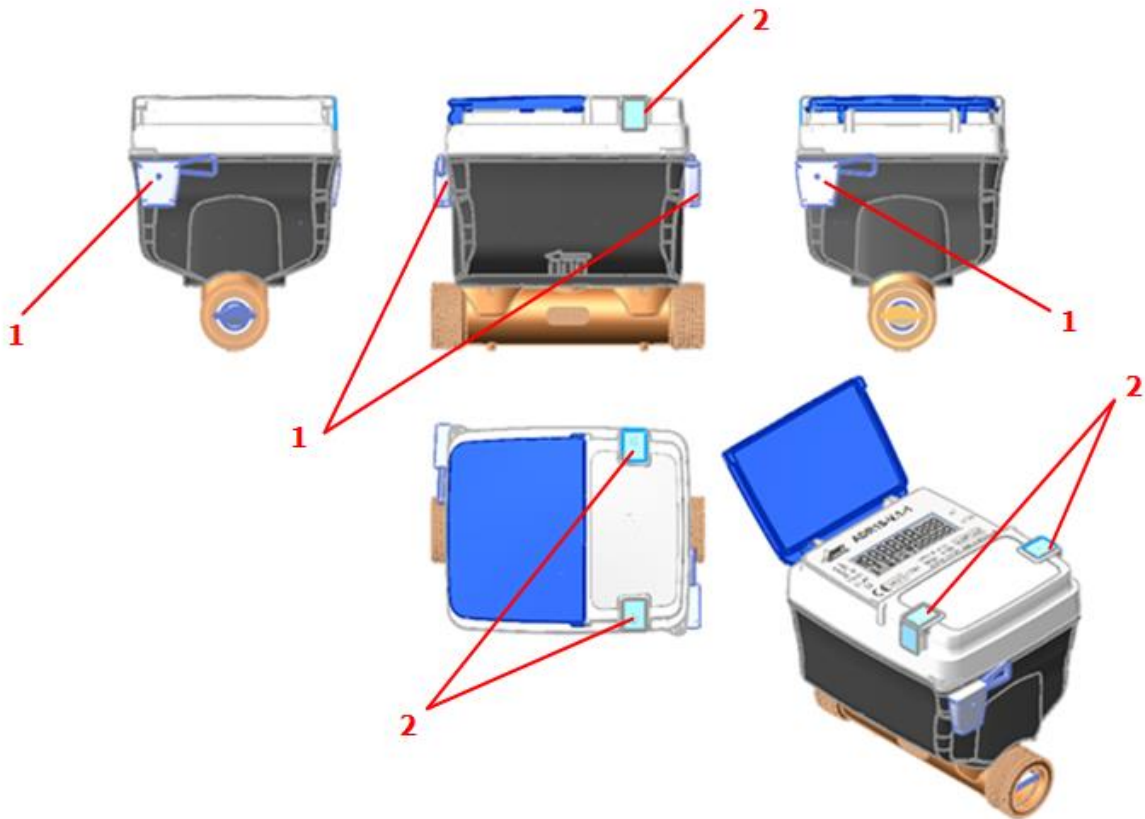

Fig.4. ADRV general view and sealing options (The meter without the external power source is taken as an example).
- Two optional security seals (pos. 1 in Fig.4). The meter design provides holes to thread the security seal wires.
- Two optional security self-destructive stickers (pos. 2 in Fig.4) to protect power source.
In Fig.4 see as an example of sealing positions: 3 with no seal and 1 with already installed security seal.